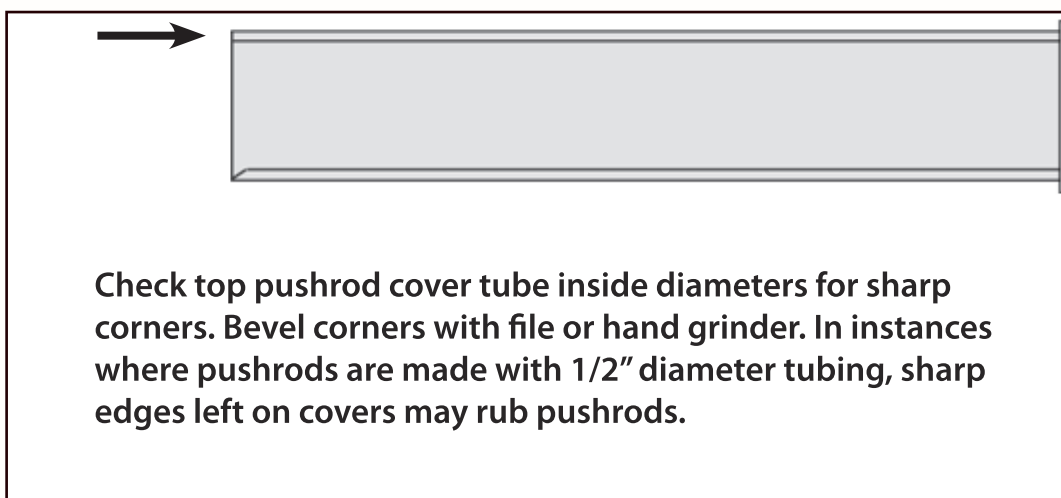

Figure 1
- d- Clean & inspect pushrod tubes. Prepare top cover as per **Figure 1**, if alloy pushrods are used. Replace all cork and/or o-ring seals. Apply a light coat of engine oil to o-rings.
- 1/2" diameter alloy pushrod kits, for ironhead Sportster® models & knucklehead engines, may contact the pushrod tubes. It is advisable to chamfer the lower, inside diameter of the top pushrod cover tube when installing these pushrod kits. See **Figure 1** below.